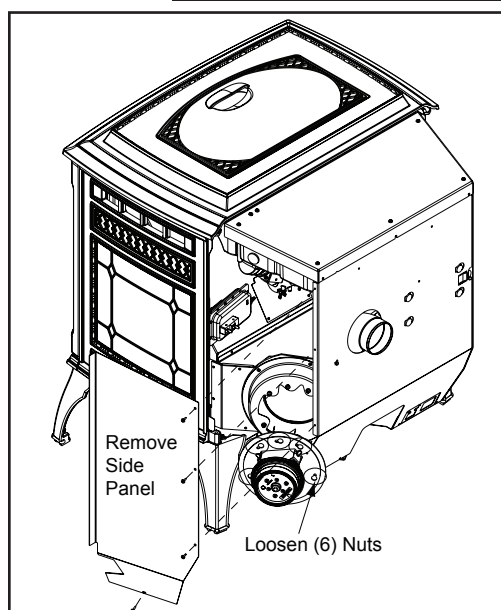

Figure 29.4
2. Remove the right side panel by removing the 4 screws using a Phillips head screw driver. **Figure 29.4.**
5. Using an 11/32 socket or nut driver, loosen the (6) 8x32 nuts securing the motor and impeller to the housing. Rotate the blower and remove from housing.